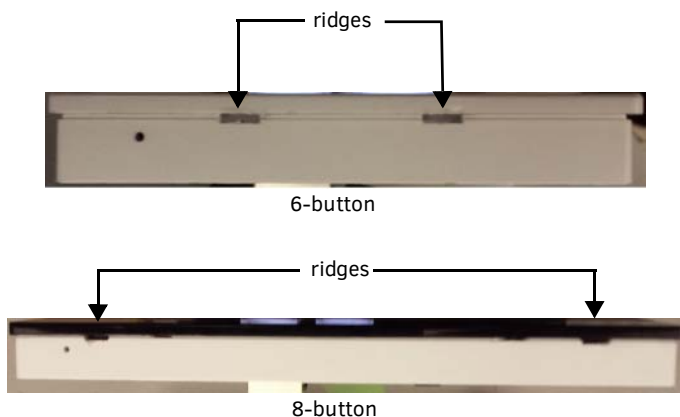

FIG. 24 Location of the ridges on the bottom of each Massio device
1. Use the flat-head screwdriver to locate the two small ridges at the bottom of the faceplate and gently pry the faceplate away from the device frame. The two ridges are located toward the center of the faceplate on the 6-button Massio devices. They are located toward the sides of the device on the 8-button Massio devices (see FIG. 24).